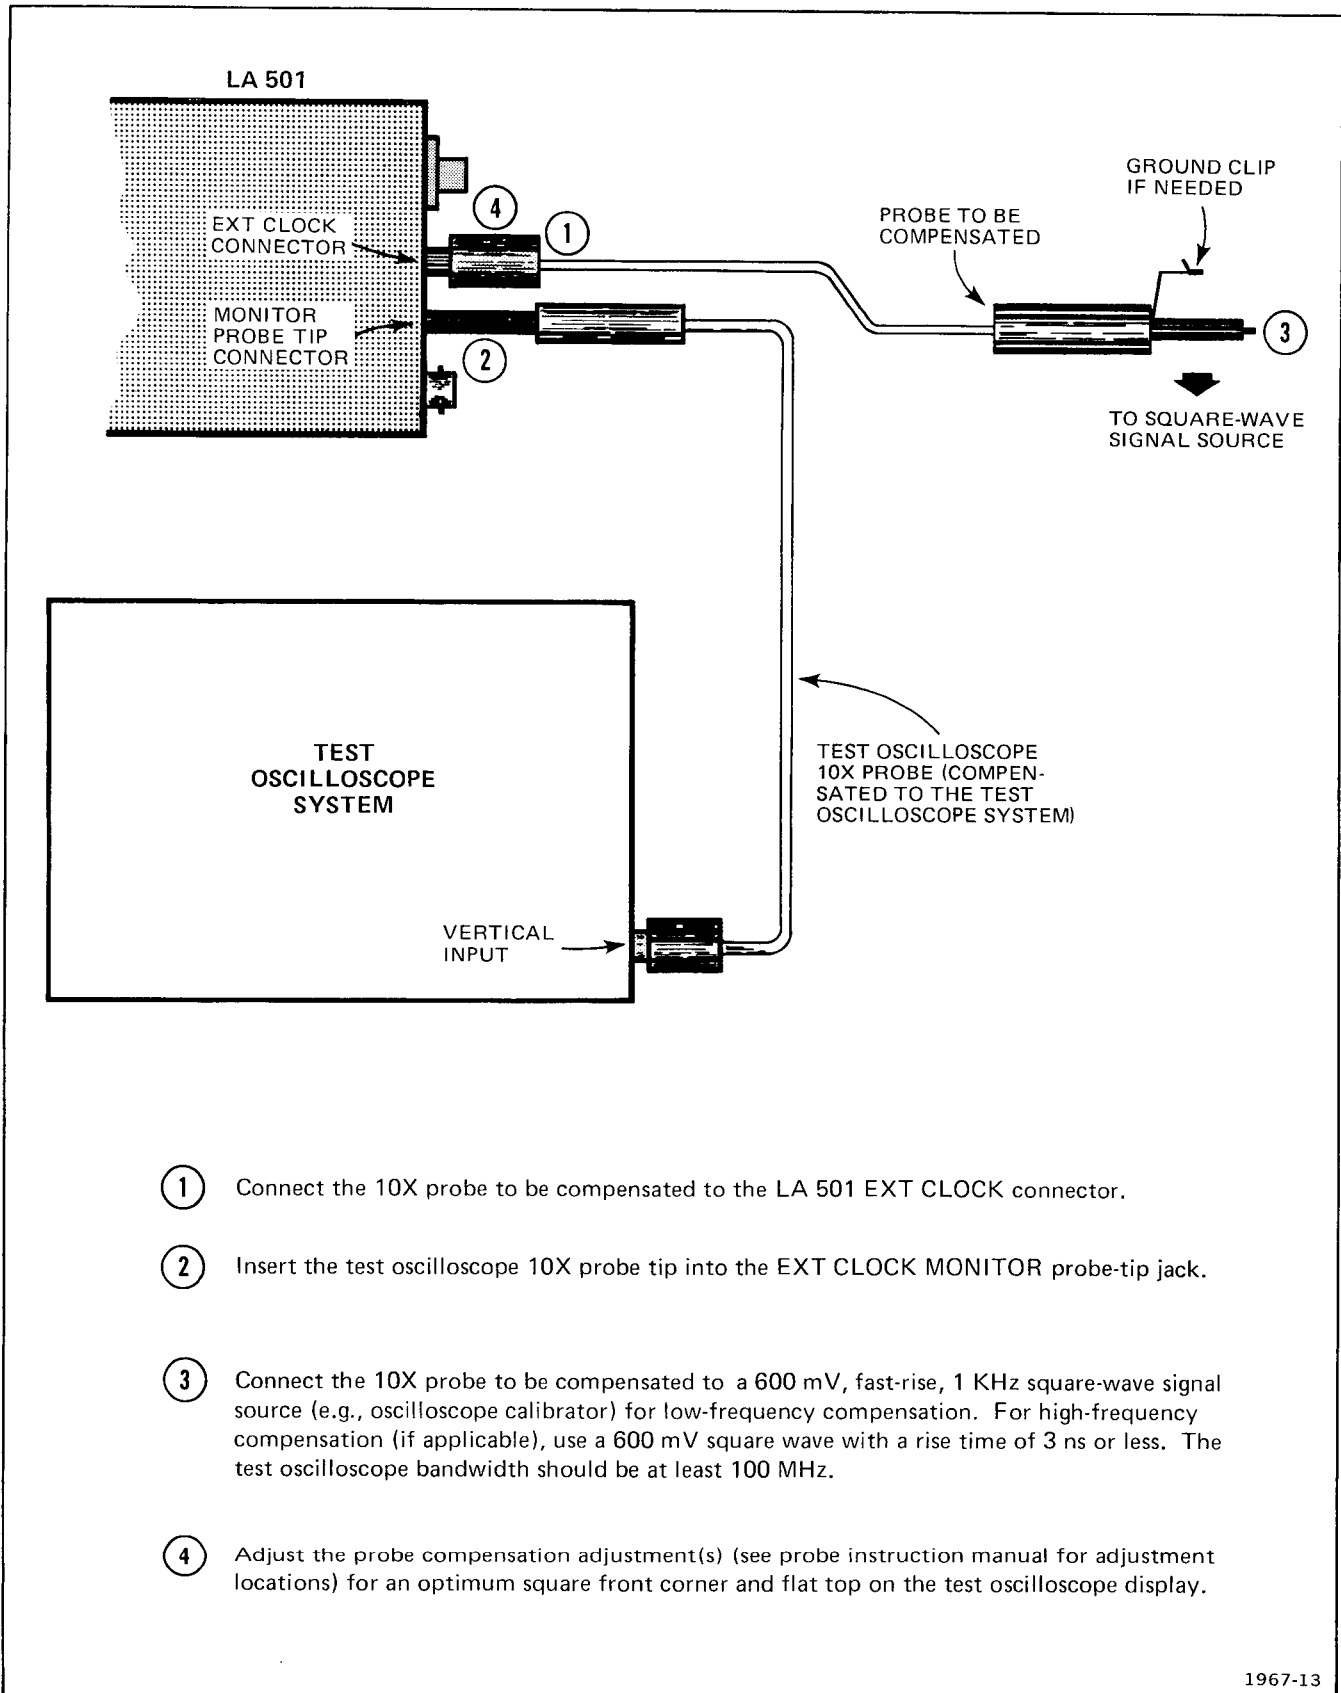

Fig. 1-6. 10X probe compensation set up and procedure.
**10X PROBE COMPENSATION.** When using 10X probes on the EXT CLOCK and CH 0 to CH 3 front-panel BNC input connectors, the probe capacitance must be compensated to match instrument input capacitance to obtain the best rise-time response. See Figure 1-6 for probe compensation set up and procedure.